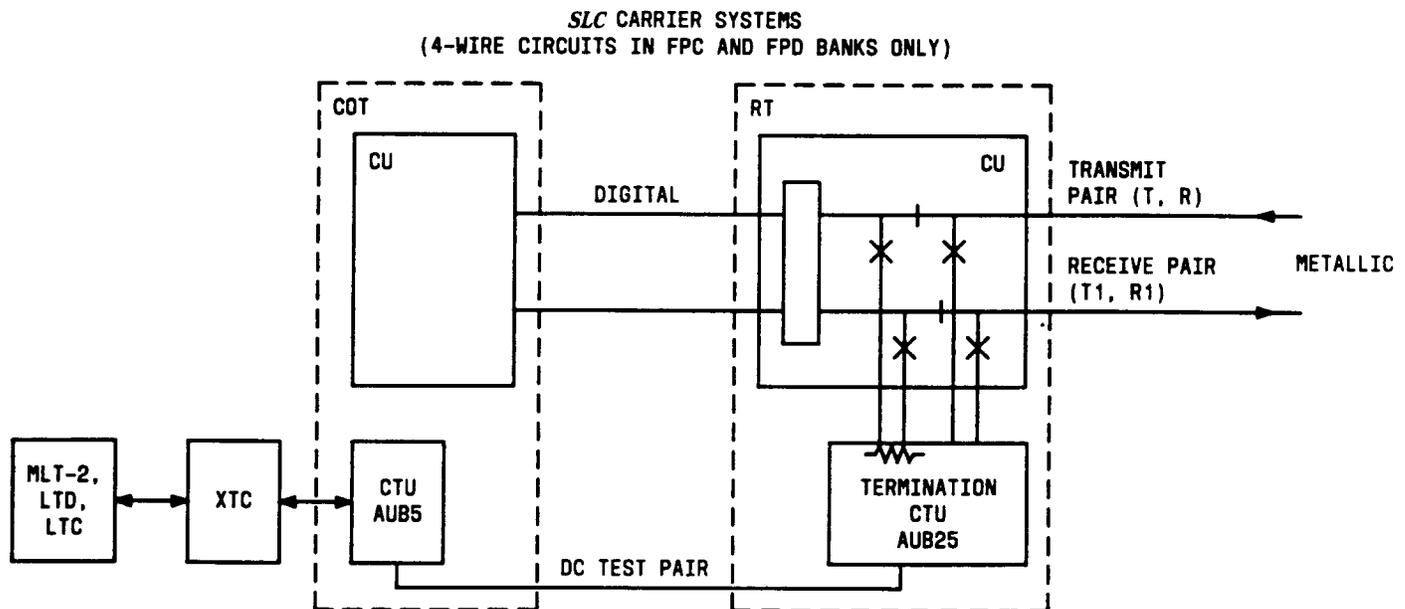

Figure 4 — MLT-2 Test Access to RT Loop
- Access at the RT to the two drops on 4-wire circuits. MLT-2, a local test desk, or local test cabinet can request access to each loop, one at a time, using the dc test pair (Figure 4).